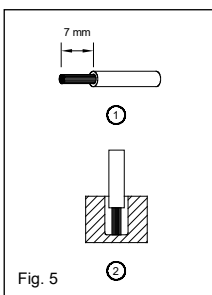

Fig. 5
You can use flexible (stranded wire) or solid cables with cross section 1.3-3.3 mm² (AWG 16-12) and torque of 0.46 Nm (4.05 lb in). To secure reliable and shock proof connections, the stripping length should be 7 mm (see Fig. 5 (1)). Please ensure that wires are fully inserted into the connecting terminals as shown in Fig. 5 (2).